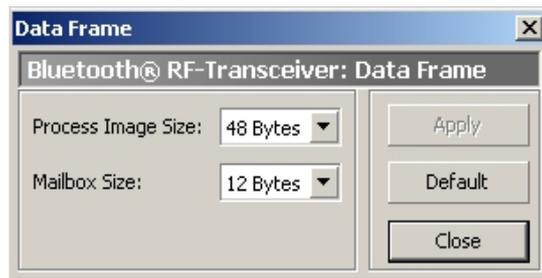

Figure 7: Data structure
6. Enter (if not already set) a process image size of 48 bytes and a mailbox size of 12 bytes (see Figure 7).